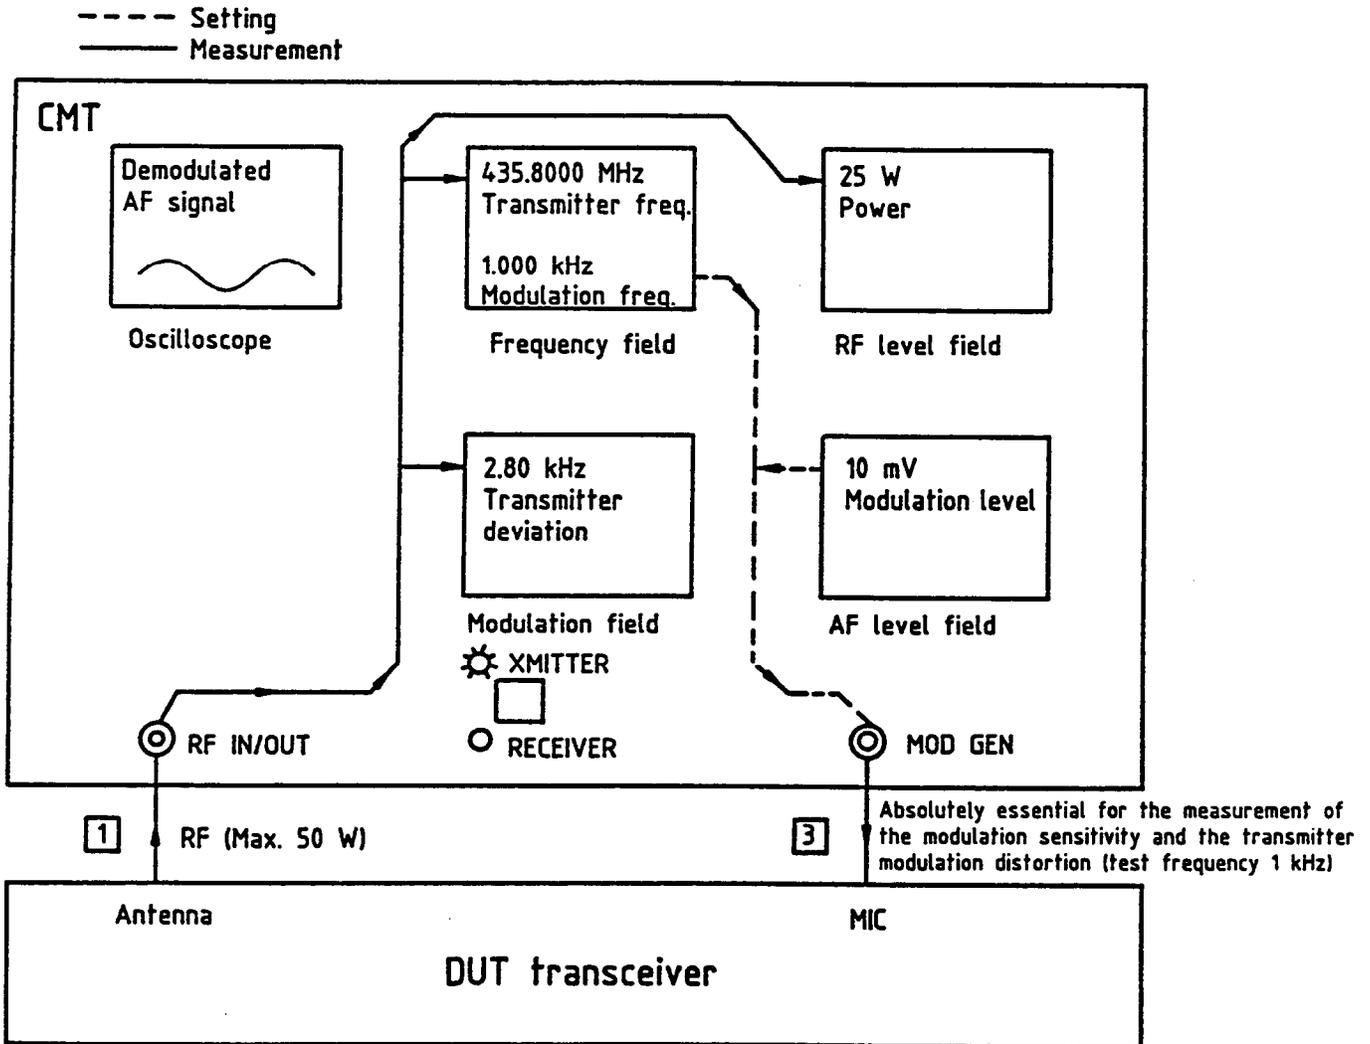

Fig. 2-11 Transmitter test
2.3.2 Connection Between CMT and Device Under Test (see Figs. 2-11 and 2-12)